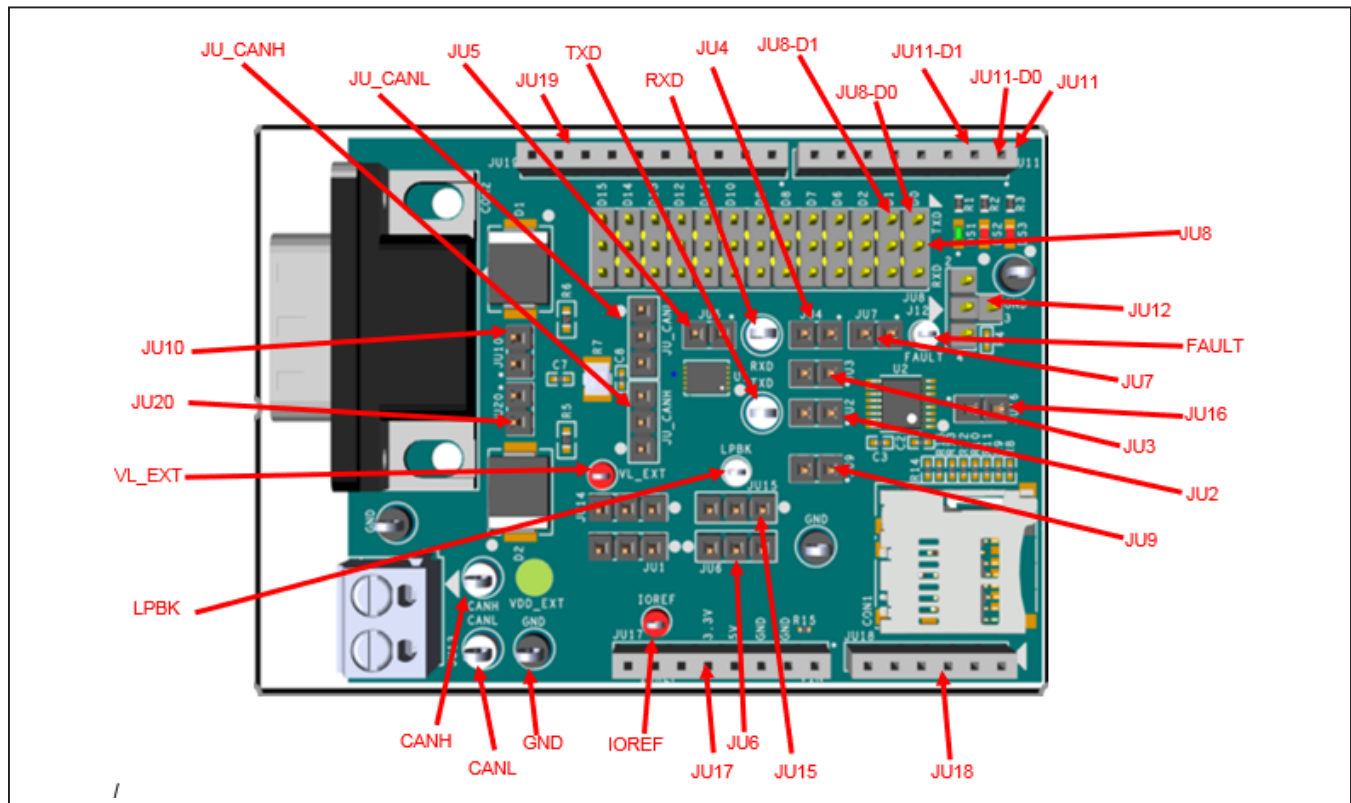

Figure 1. EV Kit with Jumpers and Positions of Test Points
- Remove the wire and follow the setup instructions in Figure 1 of the MAX33015E data sheet to observe 'Overvoltage' fault. The recommended RCM value is 150Ω and VCM value is 30V to detect 'Overvoltage' fault.